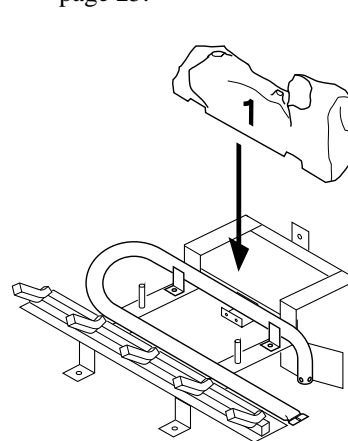

Figure 55 - Installing Log No. 1
It is very important to install these logs exactly as instructed in Figures 55 through 58. Do not modify logs. Only use logs supplied with freestanding burner system. Do not use if any log(s) are broken (see *Replacement Parts*, page 33).
- Place log #1 (back log) on top of grate. Make sure the notches in the bottom of the log fit over the grate (see Figure 55).